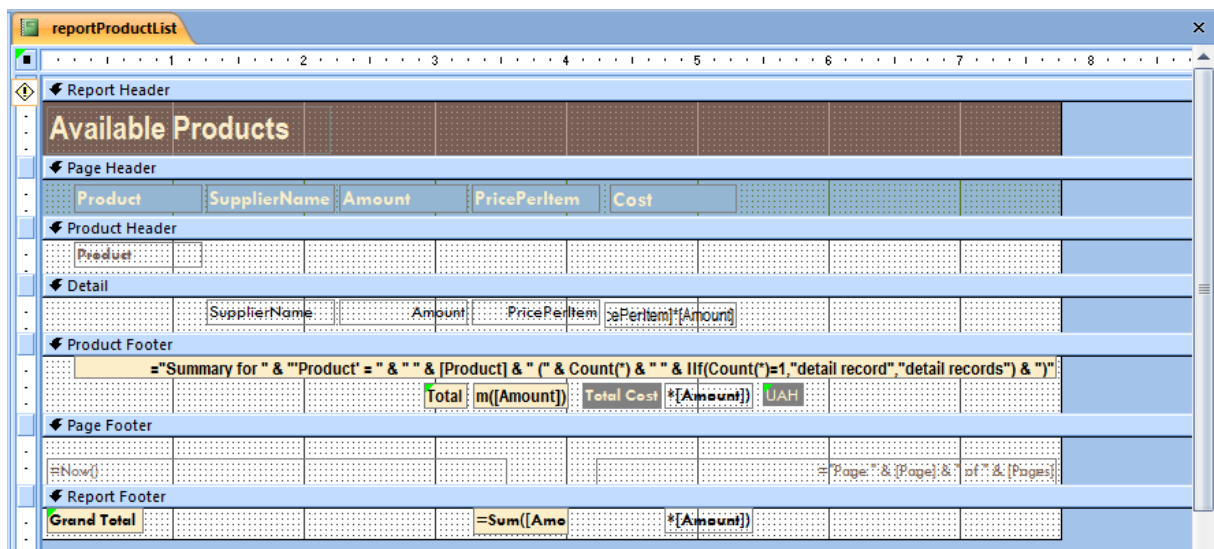

Figure 5.3
2. Enter “**Available Products**” into “Caption” field on the “Format” tab of the property sheet. Do the same for the label in the “Report Header” section. Set Arial Narrow bold font, 18 pt, and shrink “Report Header” section to save some space (figure 5.3). Save changes and preview the report.
3. Change labels in the “Page Header” section (figure 5.3). Select all labels and set bold font, 11 pt., “Align Text Left”. Click “Arrange” tab and enable “To Widest” to setup size of the labels.
4. Set 10 pt. font and “To Widest” size for the text boxes in sections “Product Header” and “Detail”. Set “Align Text Left” for the “Product” and “SupplierName” text boxes and “Align Text Right” for the “Amount” and “PricePerItem” text boxes (figure 5.3).
7. Modified report is shown in figures 5.3 (designer mode) and 5.5 (preview mode). Check all report pages.